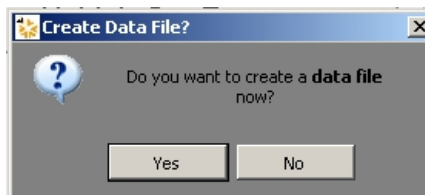

Figure 2-26 Create Data File
21. Click **Finish** and the *Create Data File* dialog appears (Figure 2-26).